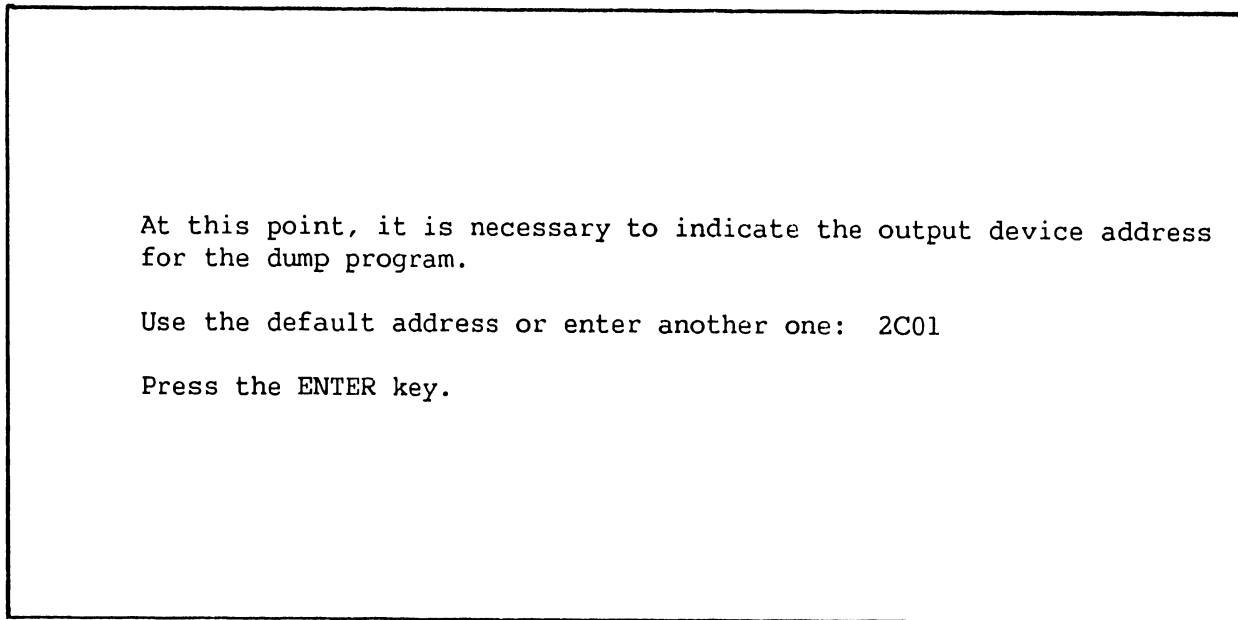

Figure 6-19. Control Mode Dump Device Address Screen
7. If you responded NO to the question in Step 4, the SCU displays a screen similar to the one shown in figure 6-19.